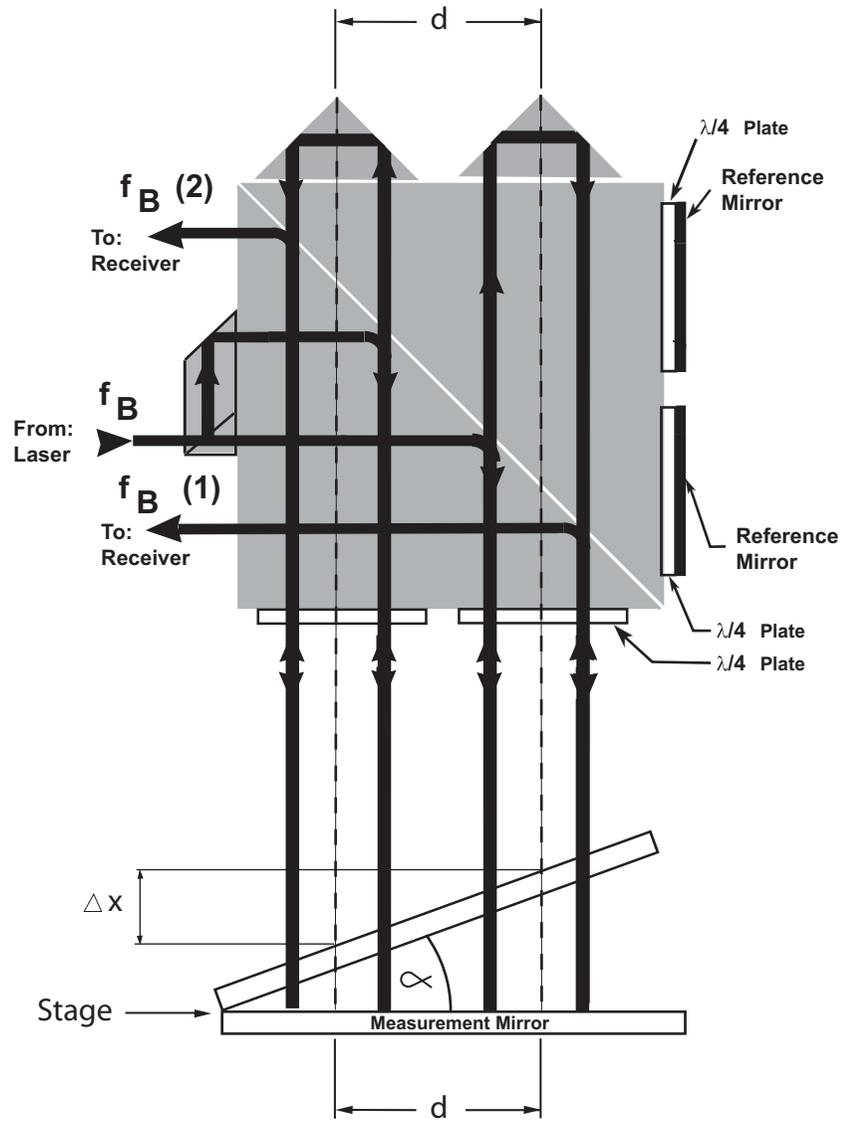

Figure 37 NGI Angular Resolution diagram
- a diagram of angular resolution of the Agilent NGI (Figure 37)
Where (see Figure 37 on page 122):